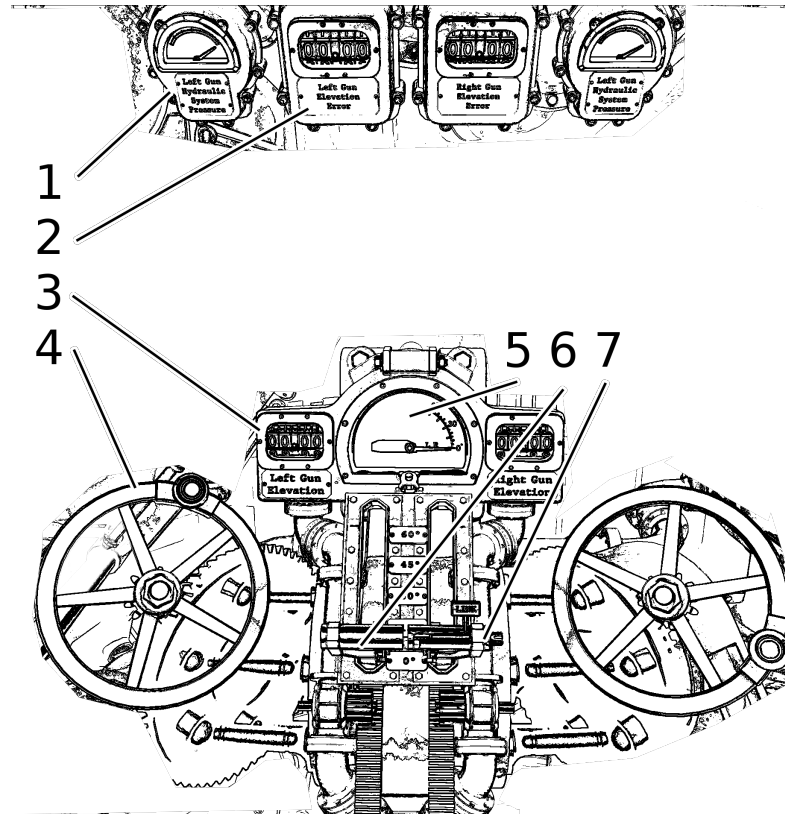

Figure 3.1: Elevation Controls
The elevation controls, as seen in Figure 3.1, provide control over the elevation of both cannon. There are both manual control wheels (4) for fine adjustment and a powered system for rapid, coarse adjustment (6). These controls are identical for left and right cannon, and engaging the link (7) will lock both barrels together for a single salvo.